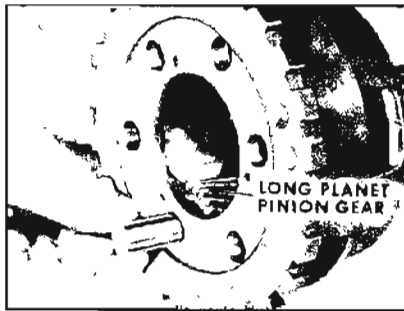

Figure 5-274
5. Position the long planet pinion assembly with the thrust washers at each end, in the planet carrier. Install the pinion shaft from the front of the carrier. As the shaft is being pushed in, make certain that it picks up the thrust washer. Turn the pinion shaft so the groove faces the center of the planet carrier. See Figure 5-274.
**NOTE:** Install the other two (2) long planet pinion gears as described in Steps 2-3-4-5.